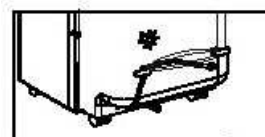

Fig.19
- Power off and unplug from power source. Wrap power cord and secure with tape. (Fig.19)